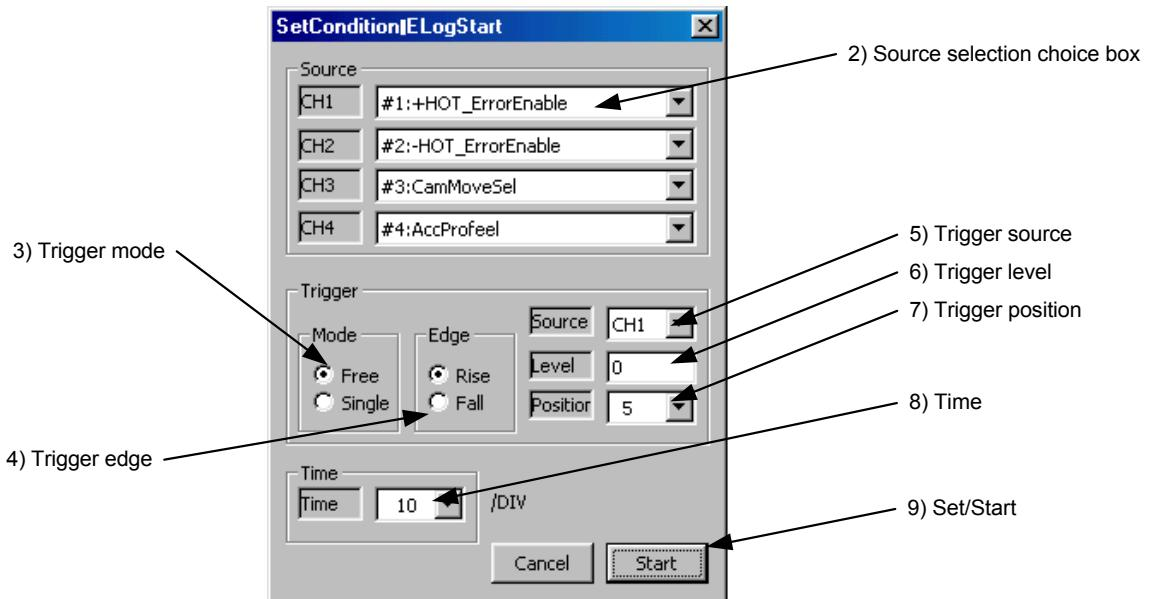

Figure 8.19 “SetCondition/ELogStart” dialog box
- (1) Click “*Log Start*” on the “Oscilloscope” dialog box to display the “SetCondition/ELogStart” dialog box (see Figure 8.19).